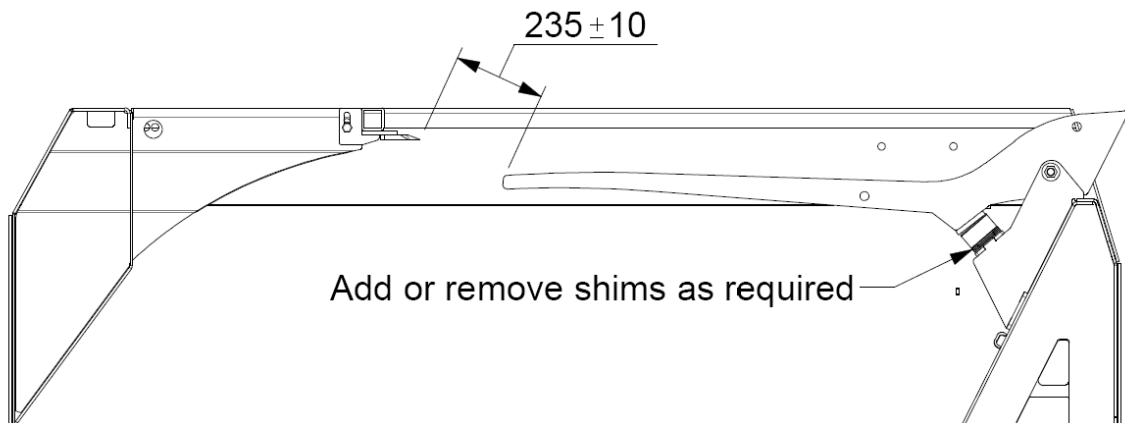

Figure 13: Bale Processor tine to top knife setting
- 2: The rubber buffer should also be checked for wear or signs of damage which may affect its shock absorption. Optimum tine to top knife gap is $235\text{mm} \pm 10\text{mm}$ (see Figure 13), but may vary depending on application and the design of tine fitted. Please consult your local Service Centre for settings.